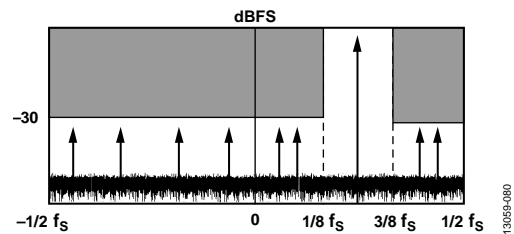
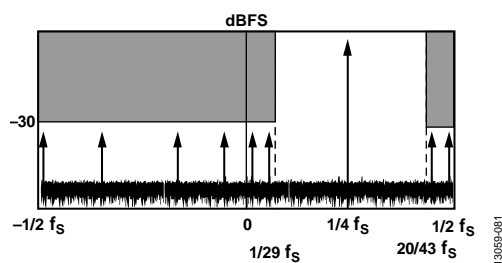

Figure 81. 25% VDR Bandwidth, Complex Mode
Figure 82. 43% VDR Bandwidth, Complex Mode
The complex mode of VDR works with selectable bandwidths of 25% of the sample rate (50% of the Nyquist band) and 43% of the sample rate (86% of the Nyquist band). Figure 81 and Figure 82 show the frequency zones for VDR in the complex mode. When operating VDR in complex mode, place in-phase (I) input signal data in Channel A and place quadrature (Q) signal data in Channel B.
Figure 81 shows the frequency zones for the 25% bandwidth VDR mode with a center frequency of $f_s/4$ (tuning word = 0x04). The frequency zones where the amplitude may not exceed -30 dBFS are the upper and lower portions of the Nyquist band extending into the complex domain.
Table 32 and Table 33 show the tuning words and frequency values for the 43% complex mode. Table 32 shows the relative frequency values, and Table 33 shows the absolute frequency values based on a sample rate of 491.52 MSPS. Figure 82 shows the frequency zones for the 43% BW VDR mode with a center frequency (f_{VDR}) of $f_s/4$ (tuning word = 0x04). The frequency zones where the amplitude may not exceed -30 dBFS are the upper and lower portions of the Nyquist band extending into the complex domain.